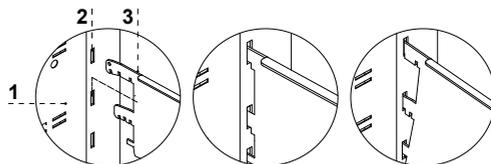

Fig.4 Fixing the hook in the frame
1. Fix hooks in frame rails Fig.4 (p.15)